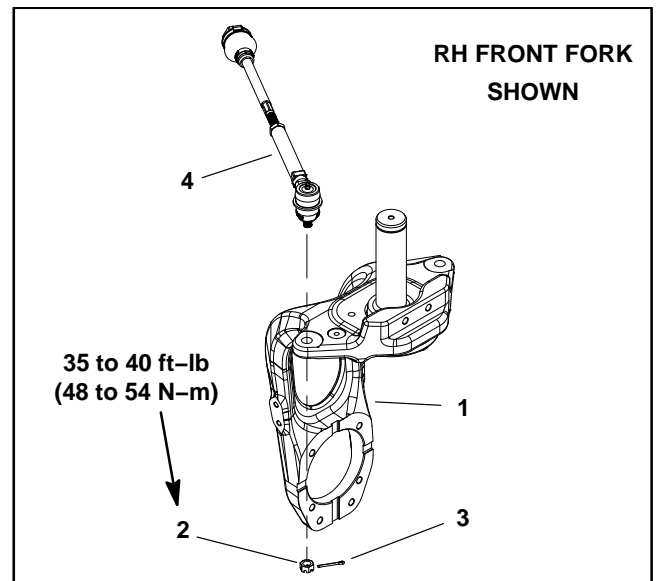

Figure 27
5. Remove cotter pin and slotted hex nut that secure tie rod end to the steering fork (Fig. 27). Separate tie rod end from the steering fork.
- A. Remove two (2) cap screws (item 34) that secure bulkhead bracket (item 23) to steering fork.
- B. Remove four (4) cap screws that secure wheel motor to steering fork. Slide wheel motor assembly (with wheel hub and hydraulic lines attached) from steering fork. Carefully, position wheel motor away from steering fork taking care to not damage hydraulic lines.